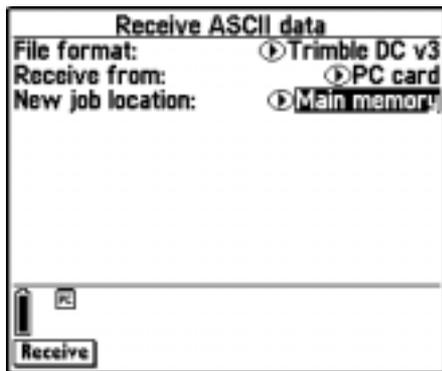

Figure 9.4 Receive ASCII Data (from PC card) screen
1. Select *Files /Import/Export / Receive ASCII data*. Figure 9.4 shows the screen that appears.